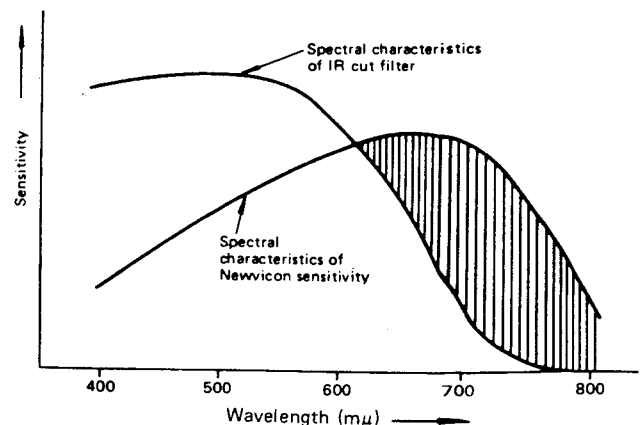

Fig. 2-5 IR Cut Filter Response
• Infrared (IR) Cut Filter
As shown in Fig. 2-5, the pick-up tube has some sensitivity in the infrared region beyond the visible range. The infrared (IR) cut filter cuts off the infrared light rays which the human eye does not see as light. If the color signal is made by using the video signal corresponding to the infrared rays which the human eye can not normally see, the colors of pictures on the monitor and that seen with the naked eye would differ substantially.